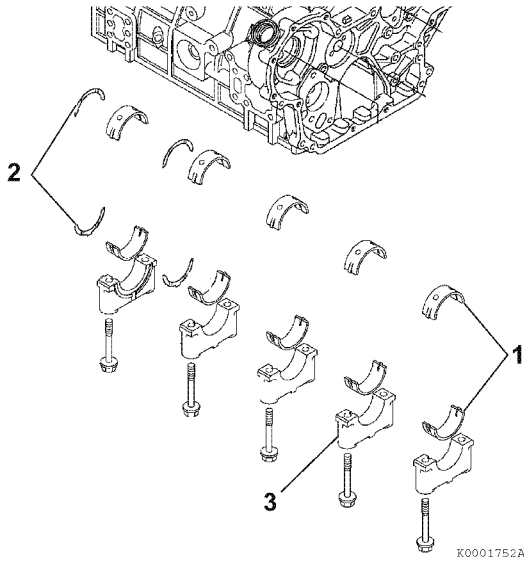

Figure 6-89
2. Reinstall new bearing inserts (Figure 6-89, (1)) and thrust bearing (Figure 6-89, (2)) in the cylinder block and main bearing caps. Apply a liberal coat of clean engine oil to the bearings and crankshaft journals.
4. Reinstall the main bearing caps (Figure 6-89, (3)).